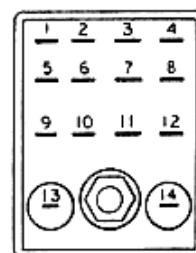

Figure 6.4 — Relay Terminals
e. Connect RF VTVM to pin 11 of K1 located on the RF amplifier assembly (refer to fig. 6.4). If indication is 400 MV, proceed to step f. If no indication is present, check K1 and the coaxial cable connected from K1 pin 9 to J50.
c. Connect RF VTVM to pin 11 of K1 located in the rf amplifier assembly (refer to fig. 6.4). If indication is at least 400 MV, proceed to step d. If no indication is present, check K1 and coaxial cable connected from K1 pin 9 to J50.